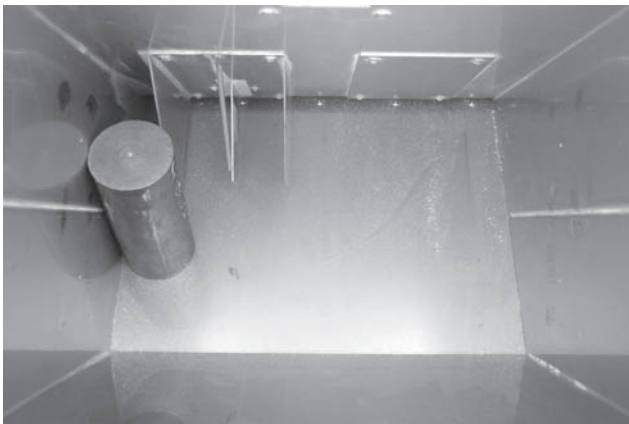

Figure 3-5: Place the weight on the far side of the weigh bucket
9. Place the known weight on one side of the bottom weigh bucket as far to one side as possible (see Figure 3-5).